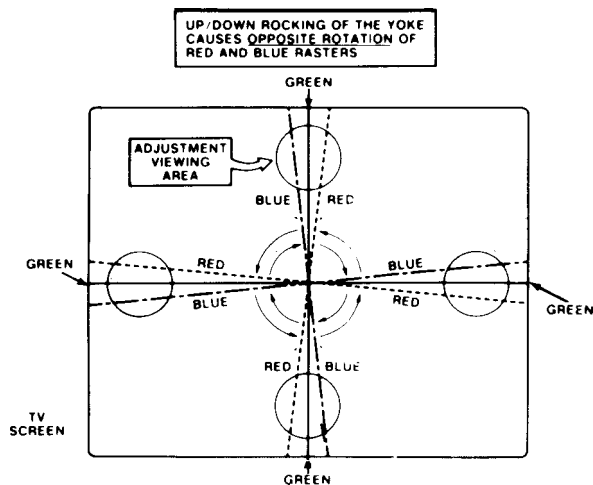

Fig. 6 - Yoke Tilt Convergence Adjustment
12. While watching the 6 o'clock and 12 o'clock positions on the screen, rock the front of the yoke in a vertical (up/down) direction to converge the red and blue vertical lines (Fig. 6).